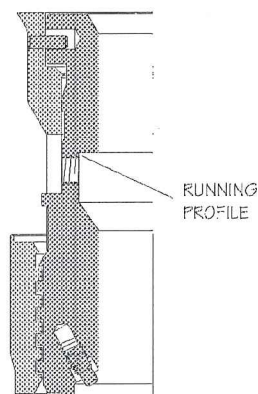

Figure 6. Running profile detail
6. Refer to **Figure 6**. Inspect the profile in the main body of the Seal Assembly. This profile is used to run the Seal Assembly on the shear pins of the Running Tool. The shear pins on the Wear Bushing also engage this profile to lock the Wear Bushing inside the Wellhead. Repair any damage that may prevent proper engagement of the shear pins.